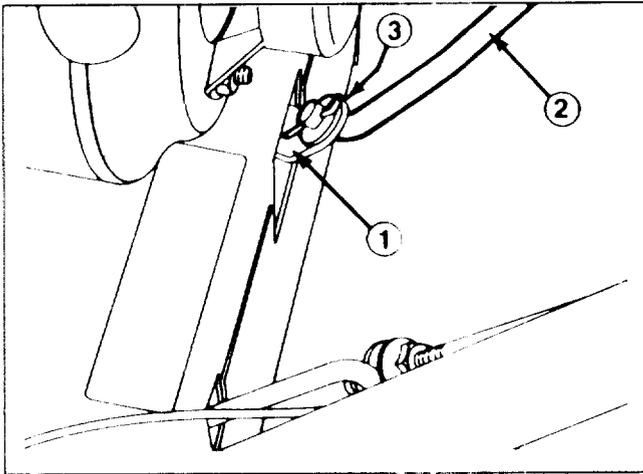
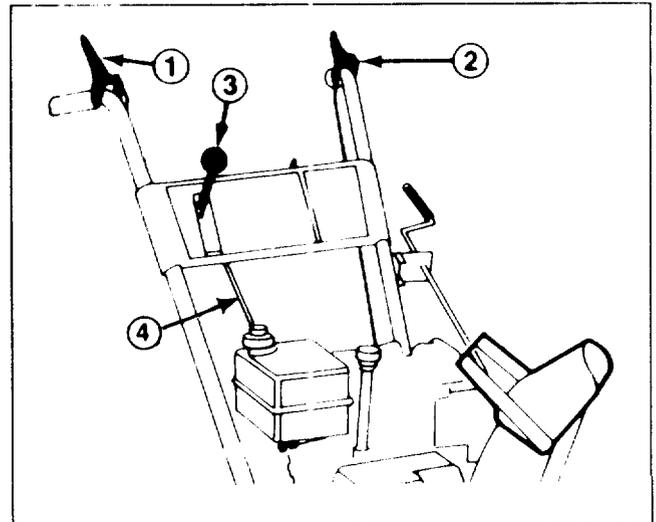

Figure 4
Figure 6
1. Pull speed selector arm (Fig. 4) to the fully "out" position and move speed selector (Fig. 6) on control panel to the R (REVERSE) position to ease assembly.
2. Install speed selector rod into selector arm, add one flat washer on the selector rod and secure with cotter pin (Fig. 4).
4. Adjust the two flange nuts up or down on the traction control rod until the distance between the top of the handgrip and the bottom of the traction control lever (Figs. 6 and 7) is approximately four inches. **This is a preliminary setting only.** Tighten the two flange nuts finger tight.
5. Move speed selector (Fig. 6) into third gear.
3. Check the distance between the top of the handgrip and the bottom of the auger control lever (Figs. 6 & 9). Distance should be approximately four inches. **This is a preliminary setting only.**